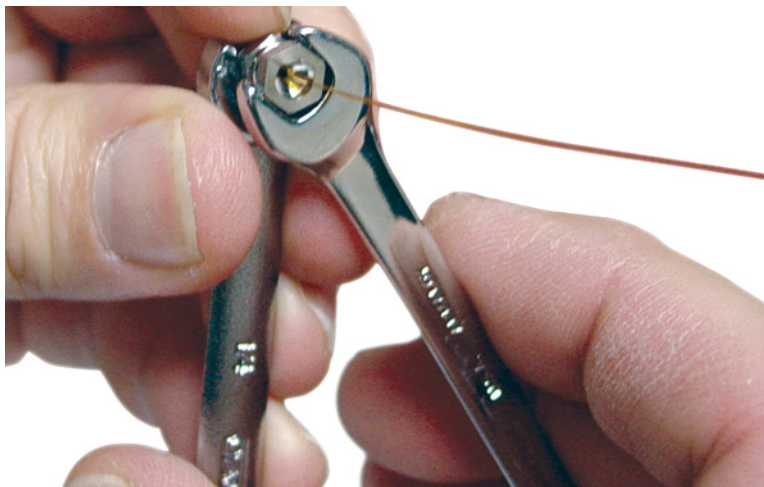

Figure 5 Tightening the internal nut
- 3 Using the wrench and ferrule pre-swaging tool, tighten the nut a little at a time, occasionally checking to see if the ferrule is gripping the tube (see Figure 5). When the ferrule just starts to grip, notice position of the nut and then tighten by turning 45 to 60 degrees of rotation, but no more than 60 degrees (one flat). If you can pull the column free, it is not tight enough.